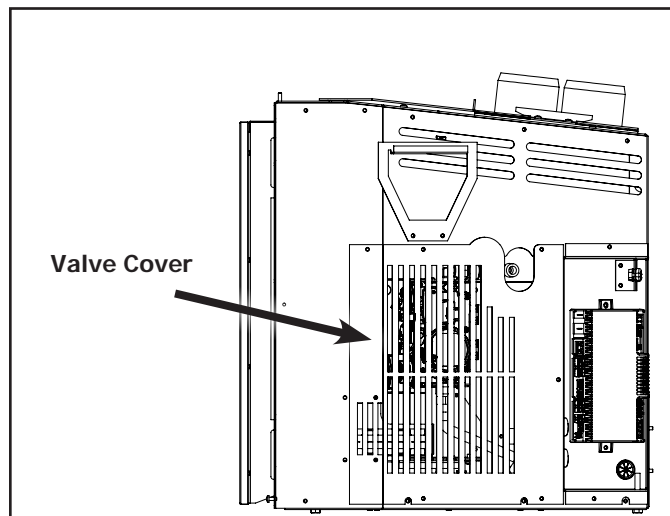

Figure 25: Valve Cover.
The valve cover located on the right side (Figure 25) needs to be removed to gain full access to the gas valve when converting or servicing the valve.
- Use a T-20 screwdriver to remove the eight screws that hold down the valve cover shown in Figure 25.